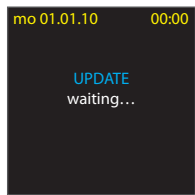

fig. 2
5. Remove batteries from RF pilot controller. Prior to re-inserting the batteries, it is necessary to press the cross controller on the front side in the top left direction at the same time. Insert the batteries while permanently pressing the cross controller. RF pilot transfers to the update mode (see figure 2) and waits for the transmission commencement.